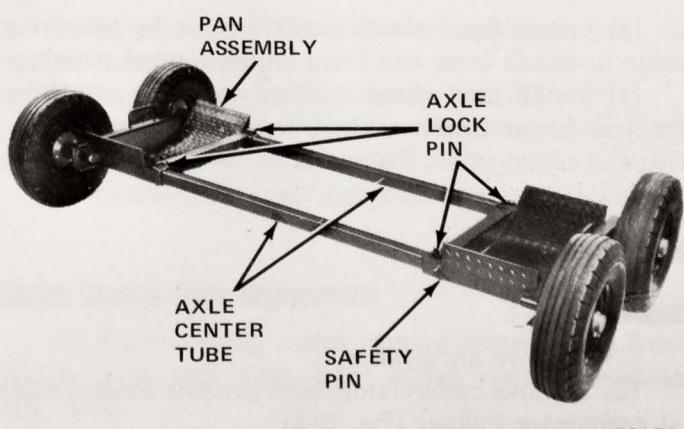

Fig. 10-11 Passenger Car Dolly—Assembled View
(1) Place pan assemblies on ground and position both axle center tubes in pan assemblies (fig. 10-11).
(2) Align holes in pan assemblies with holes in axle center tubes and install axle lockpins.